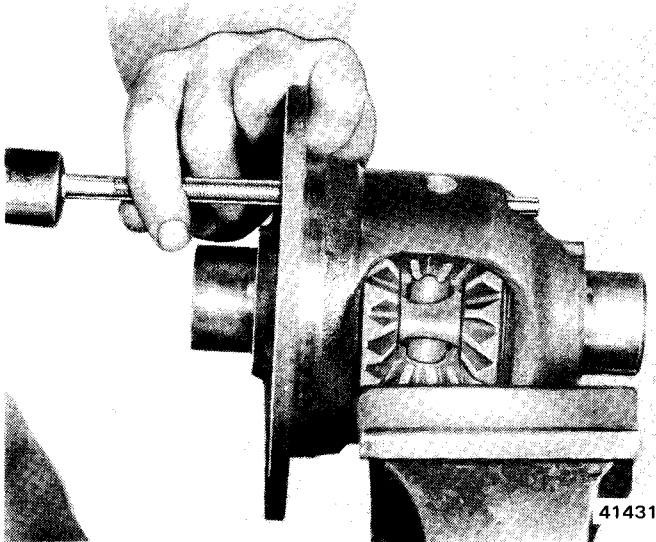

Fig. 10-35 Removing Pinion Mate Shaft Lockpin
- (1) Using 3/16-inch diameter drift at least 3 inches long drive out lockpin that holds pinion mate shaft in place (fig. 10-35).